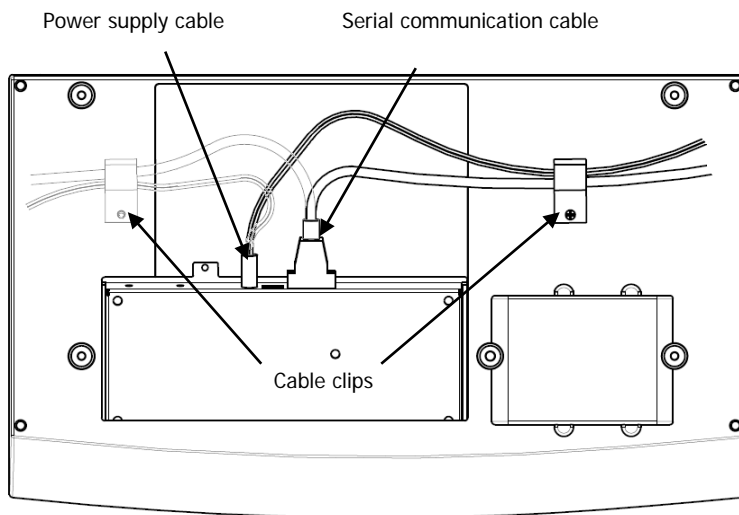

Figure 4 Routing the electrical cables
7. Route the cables to either the left or right side of the Autosampler and use the cable clip to secure the cables as shown in Figure 4.